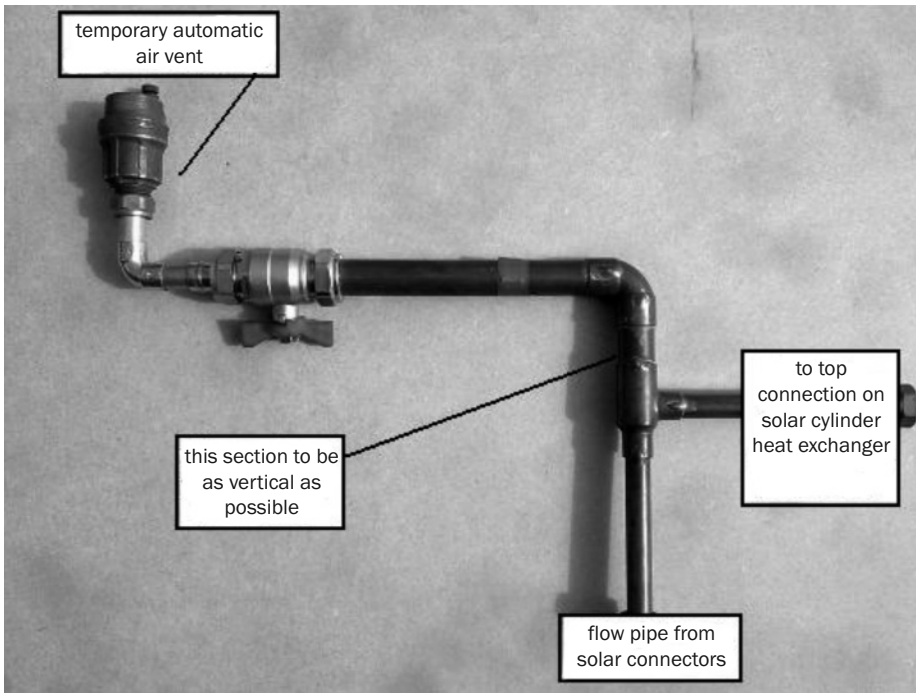

fig 153: air separation assembly
- ensure the air-separation assembly, shown in fig 153, is installed correctly. Connect the temporary automatic air vent to the air-separation assembly, open the isolation valve (which must be high-temperature tolerant) and unscrew the cap of the automatic air vent.